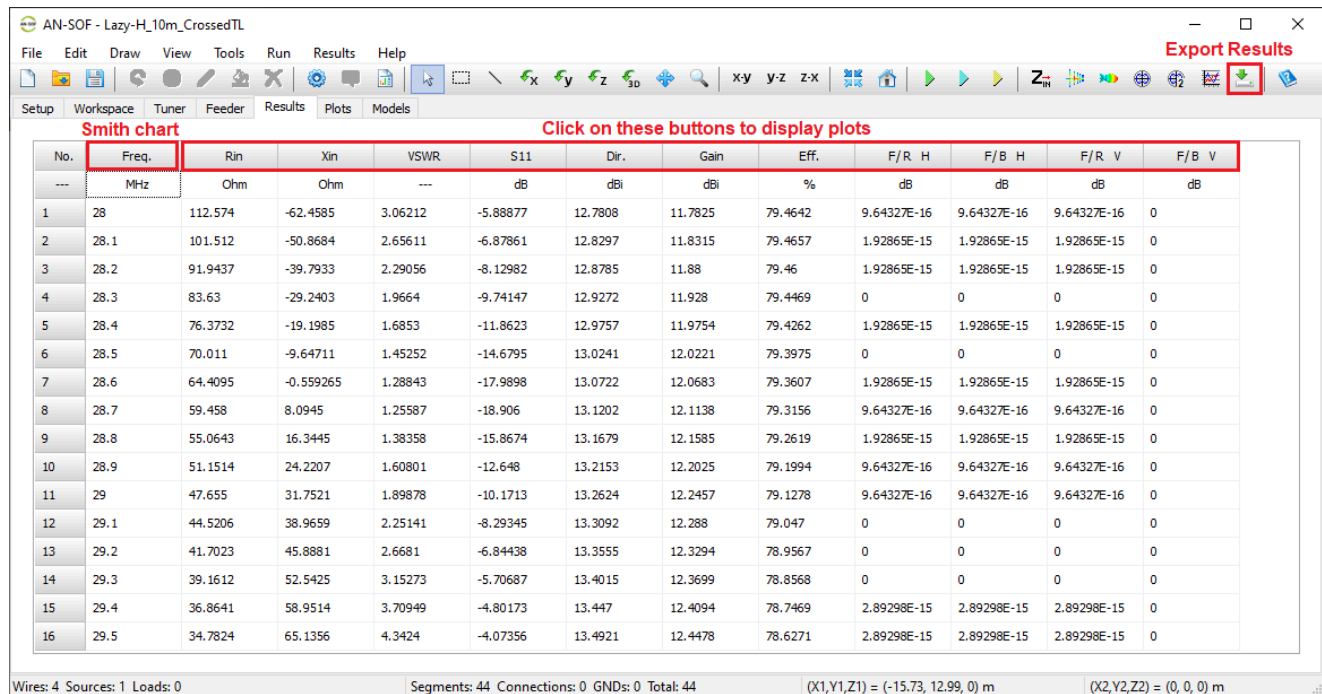

Fig. 1: Results tab in the main window, with the Export Results button highlighted in the toolbar.
The **Results** tab in the AN-SOF main window (see Fig. 1) displays a table with the primary results for a transmitting antenna, including:
making changes to the project. To export these results to a **CSV** file, click the **Export Results** button on the toolbar (see Fig. 1).
3. Click the header buttons as indicated in Fig. 1 to plot these results against frequency.